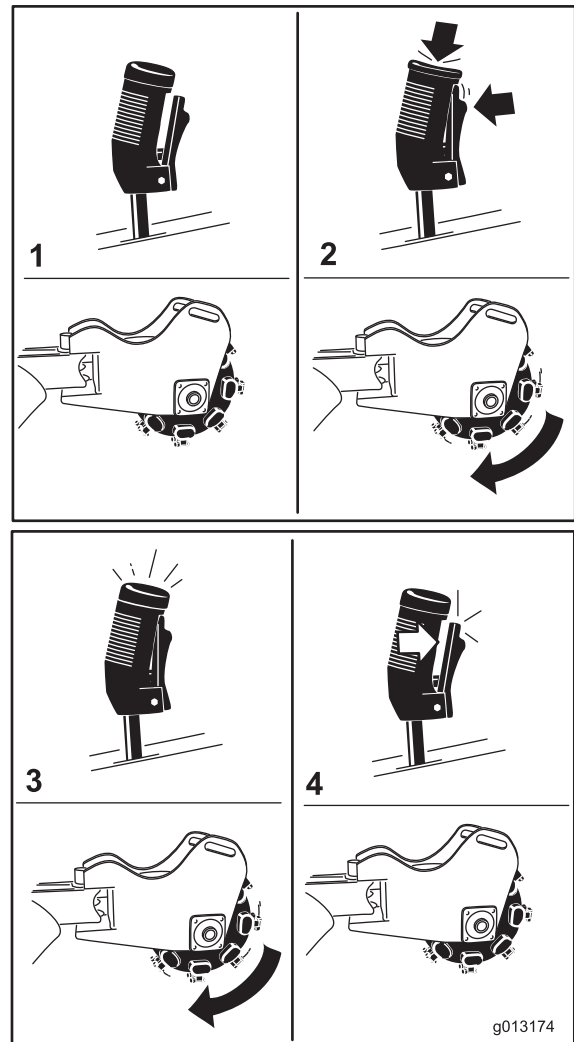

Figure 12
- To start the grinder (Figure 12), press the red button on the top of the lever, then squeeze the trigger. Once the grinder has started, you can release the red button.
- To stop the grinder (Figure 12), release the trigger for more than a half second.